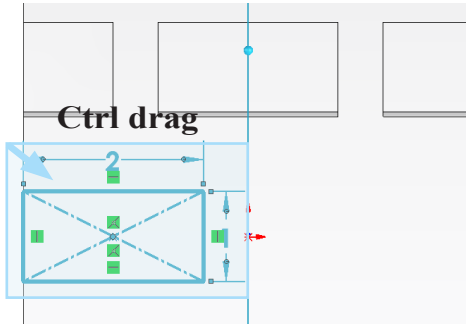

Fig. 30
Step 14. **Ctrl drag** a selection to **select rectangle**, **Fig. 30.**